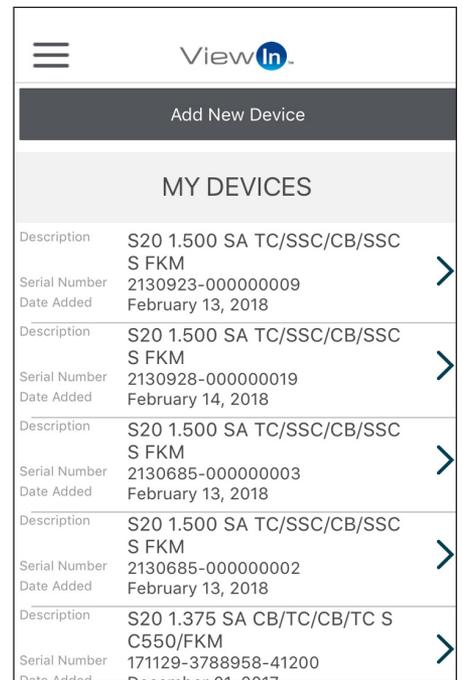

Figure 22
3. All of the seals you have scanned in will be displayed here (Figure 22).